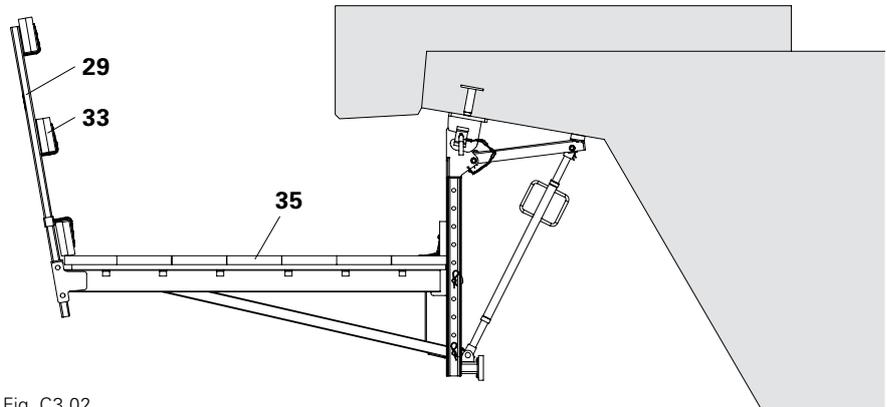
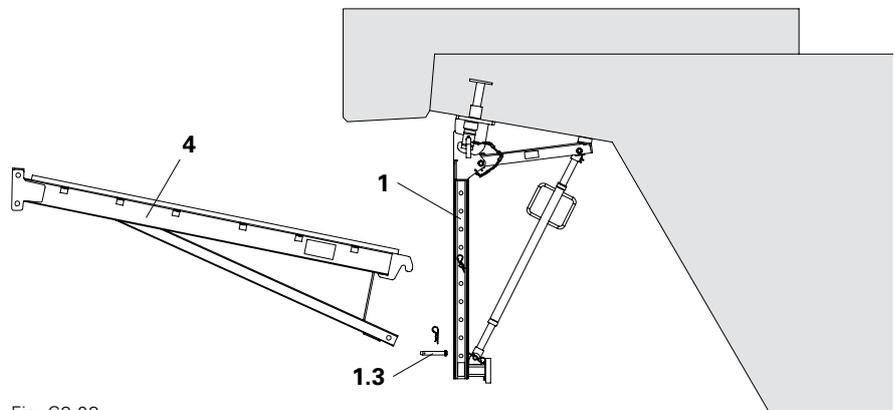

Fig. C3.02
Fig. C3.03
1. Remove Guardrail Boards (33) and Guardrail Posts HSGP-2 (29).
2. Decking is continuously removed accordingly. (Fig. C3.02)
3. Remove the Platform Cantilever Beam VGK 170 (4).
4. Re-install bolts and cotter pins (1.3) in the Bracket Post VGK (1). (Fig. C3.03)